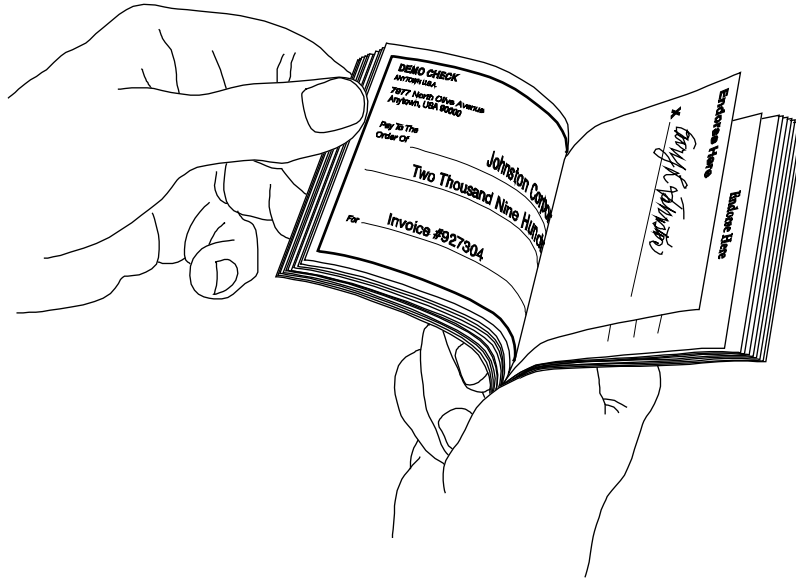
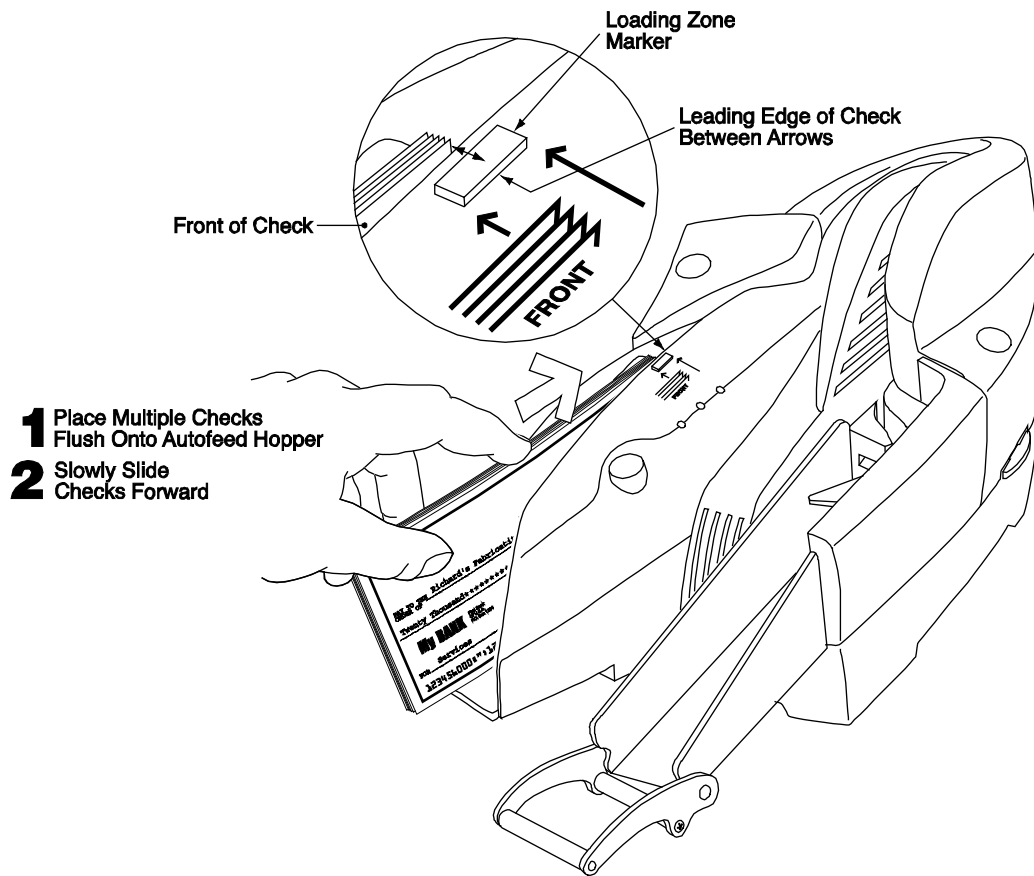

Figure 3-2. Separate Checks by Fanning
Figure 3-3. Stacking Checks in Input Hopper
The **Automatic Feed Input Hopper** can hold up to 70 checks. Separate the checks by fanning as indicated in Figure 3-2 and stack as shown in Figure 3-3.
1. Stack the checks in the **Automatic Feed Input Hopper** as shown in Figure 3-3.
2. Slide the deck forward to the **Loading Zone Marker** so that all leading edges are within the length of the loading zone as shown in Figure 3-3.